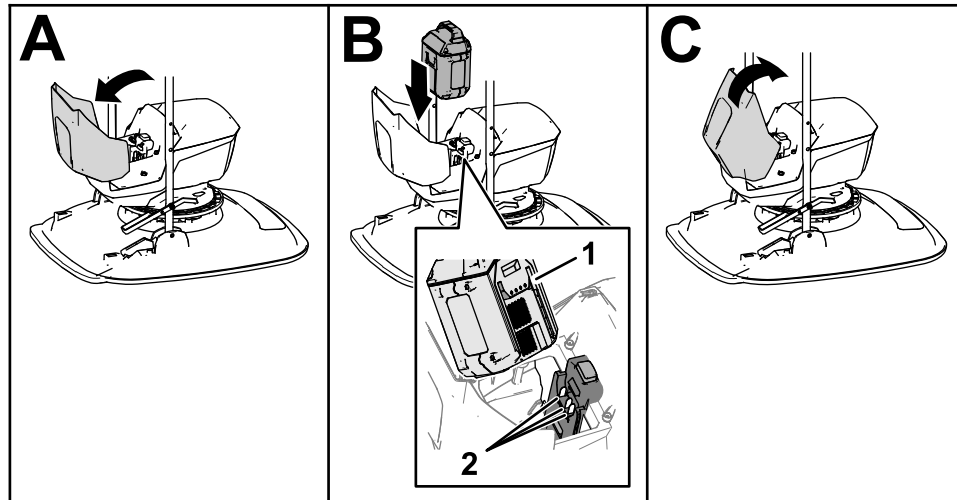

Figure 15
3. Open the battery-compartment cover (Figure 15).